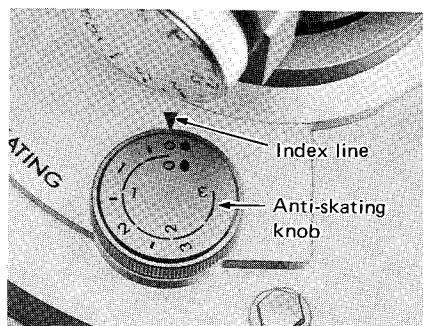

Fig. 13
1. Turn the anti-skating knob until the "0" mark is aligned with the index line. (See Fig. 13)